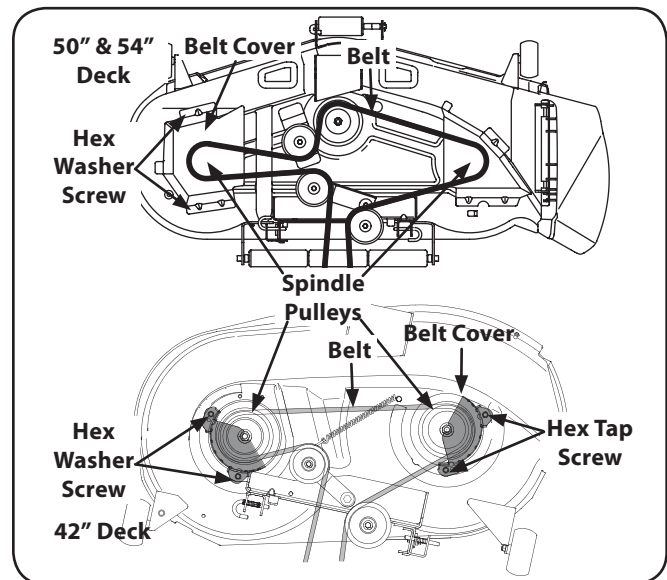

Figure 7-6
2. Remove the hex tapping screws securing the belt covers to the deck and remove the belt from the spindle pulleys. Refer to Figure 7-6.
3. Install the new belt around the spindle pulleys as shown in Figure 7-6 and reinstall the belt covers.